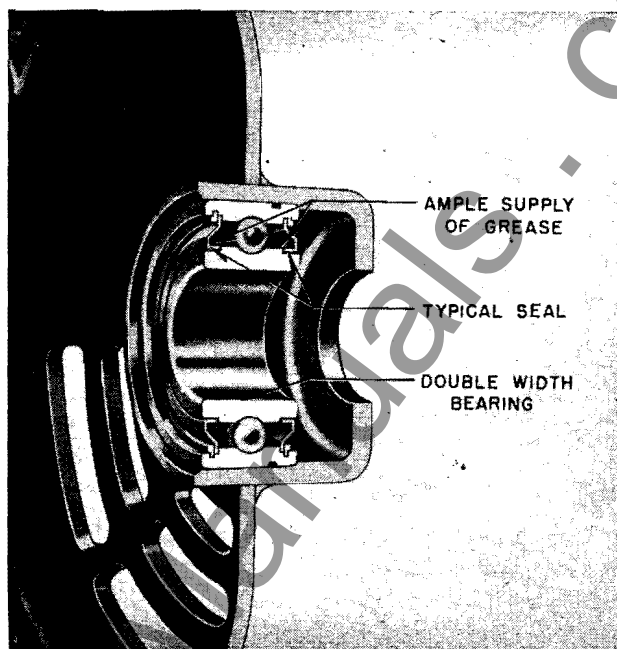

FIG. 3. Sectional View—Prelubricated Ball Bearing
**Bearings.** (See Fig. 3.) The bearings used in Life-Line motors are packed at the factory with the proper amount of lubricant; no further lubrication is needed for the normal life of the bearings.
Bearings from several suppliers are used in Life-Line motors; for a given size motor, the bearings of all suppliers are interchangeable. The details of the seal construction vary somewhat depending upon the bearing manufacturer, but each type of seal is equally effective in keeping out foreign material and retaining the lubricant. A typical seal construction is shown in Fig. 3.